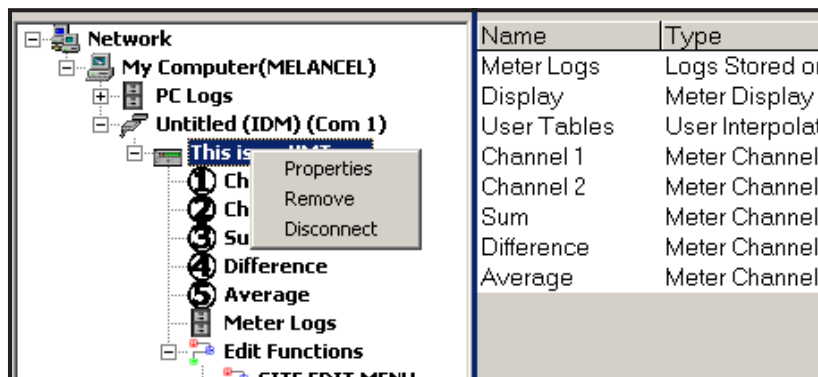

Figure 5: Properties Option in the New Meter Browser
2. Right-click on the highlighted XGF868i and click on the *Properties* option, as shown in Figure 5.